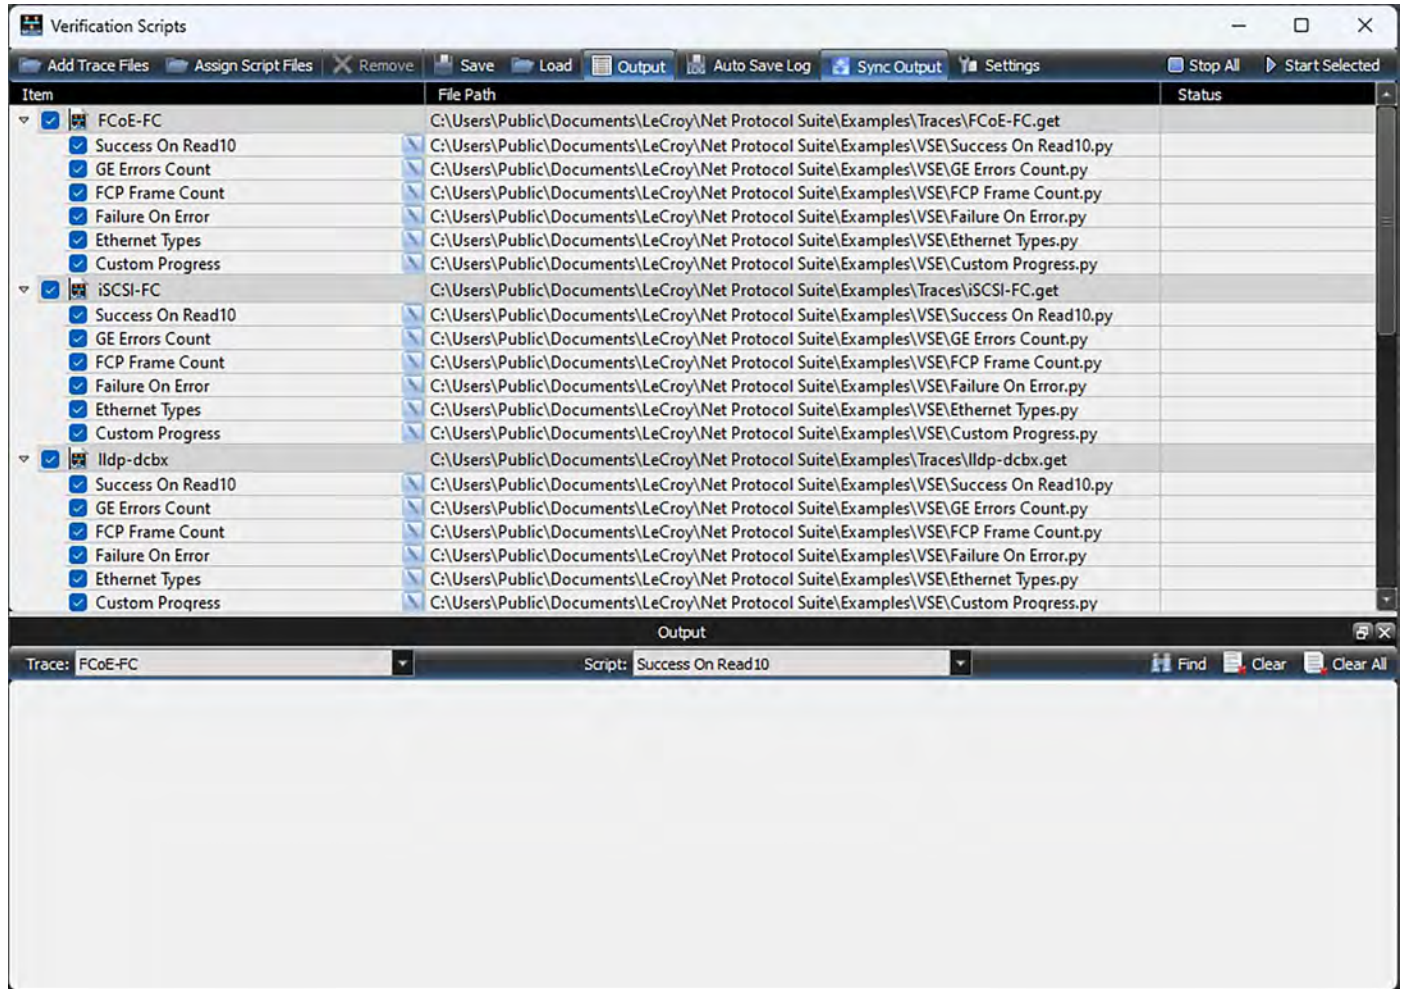

Figure 5.121: All Scripts Assigned to All Traces
2. Click on the **Open** button. The Main Verification Script Window is populated with the selected Traces and Scripts. The middle column (File Path) shows the path to either the Trace or the Script. Figure 5.121.